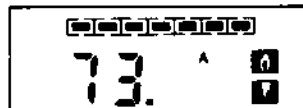

Figure 8. Cool set point
(2) Press  to raise or  to lower to the desired temperature.
(3) Press and release . You will observe a display as in figure 8. This is the cool temperature.
(4) Press  to raise or  to lower to the desired temperature.